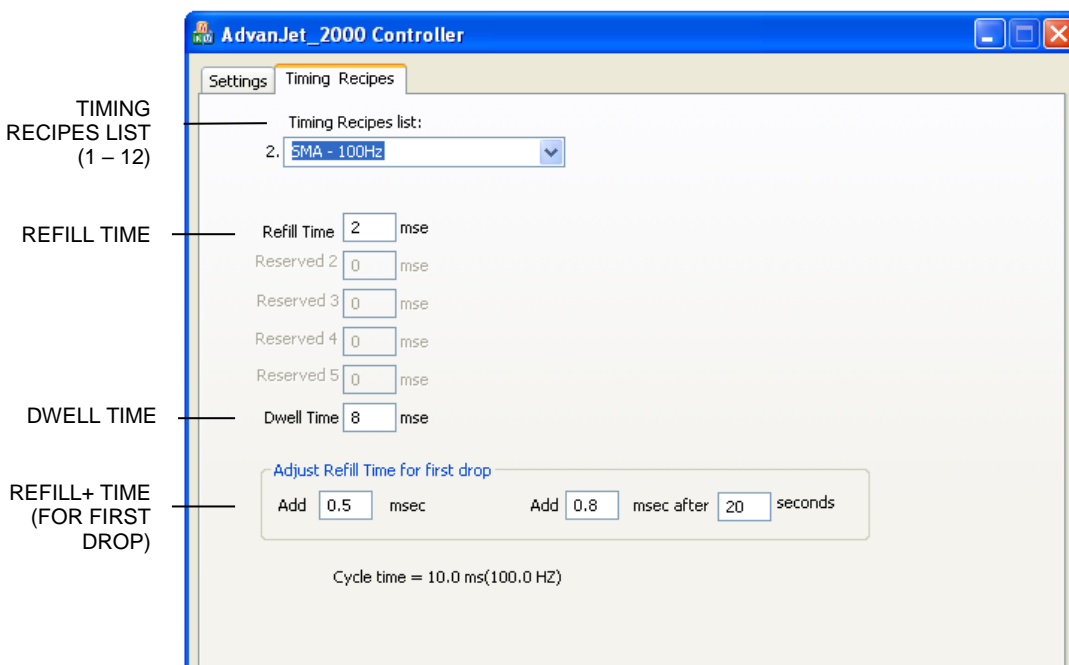

Figure 6-1: Timing Recipes Main Menu
The Advanjet software offers several sample Timing Recipes for popular fluids for a quick start-up. As shown in Figure 6-1 above, the Timing Recipes main menu screen lists the dispensing parameters on the HV-2000C controller front panel.
- **Add xxx msec:** is a time value that is added to Refill Time. Referring back to Figure 6-1, 2.0 msec (original Refill Time) + additional 0.5 msec = 2.5 msec Total Refill Time. In DROP mode, this value is added to every drop (described in Section 6.3). However, in LINE mode this value is added only to the very first drop (described in Section 6.4).
- **Add XX msec after YY seconds:** is a time value added to the Refill Time after the jet is idled for a defined number of seconds. This additional time is added only to the first drop in both Drop and Line Mode. Referring again to Figure 6-1, the Refill Time for the first drop after 20 seconds at idle would be 2 msec (original Refill Time) + additional 0.8 msec = 2.8 msec Total Refill Time. This applies to only the first drop.